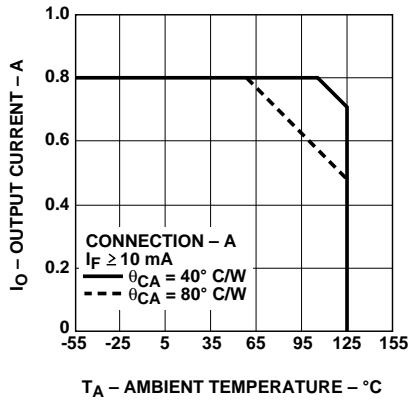
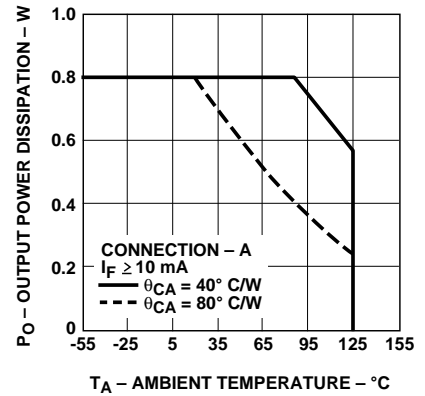

Figure 2. Maximum Average Output Current Rating vs. Ambient Temperature.
Figure 4. Output Power Rating vs. Ambient Temperature.
Average Output Current – Figure 2
Average Output Power Dissipation – Figure 4	800 mW ^[2]
- For rating, see Figure 4. The output power P_O rating curve is obtained when the part is handling the maximum average output current I_O as shown in Figure 2.
IN ORDER TO DETERMINE V_{OUT} CORRECTLY, THE CASE TO AMBIENT THERMAL IMPEDANCE MUST BE MEASURED FOR THE BURN-IN BOARDS TO BE USED. THEN, KNOWING θ_{CA} , DETERMINE THE CORRECT OUTPUT CURRENT PER FIGURES 2 AND 4 TO INSURE THAT THE DEVICE MEETS THE DERATING REQUIREMENTS AS SHOWN.
Rating curves are shown in Figures 2 and 4. Figure 2 specifies the maximum average output current allowable for a given ambient temperature. Figure 4 specifies the output power dissipation allowable for a given ambient temperature. Above 55°C (for $\theta_{CA} = 80^\circ\text{C/W}$) and 107°C (for $\theta_{CA} = 40^\circ\text{C/W}$), the maximum allowable output current and power dissipation are related by the expression $R_{SS} = P_O(\text{max}) / (I_O(\text{max}))^2$ from which R_{SS} can be calculated. Staying within the safe area assures that the steady-state junction temperatures remain less than 150°C. As an example, for $T_A = 95^\circ\text{C}$ and $\theta_{CA} = 80^\circ\text{C/W}$, Figure 2 shows that the output current should be limited to less than
610 mA. A check with Figure 4 shows that the output power dissipation at $T_A = 95^\circ\text{C}$ and $I_O = 610\text{ mA}$, will be limited to less than 0.35 W. This yields an R_{SS} of $0.94\ \Omega$.